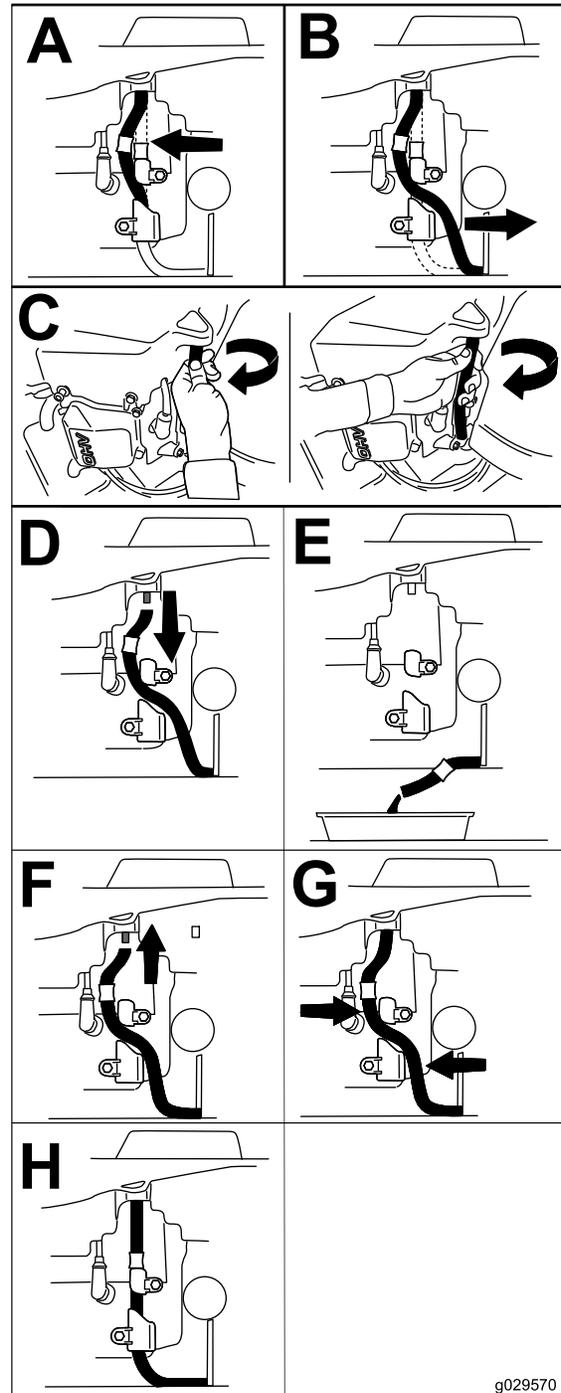

Figure 41
3. Drain the oil from the engine (Figure 41).